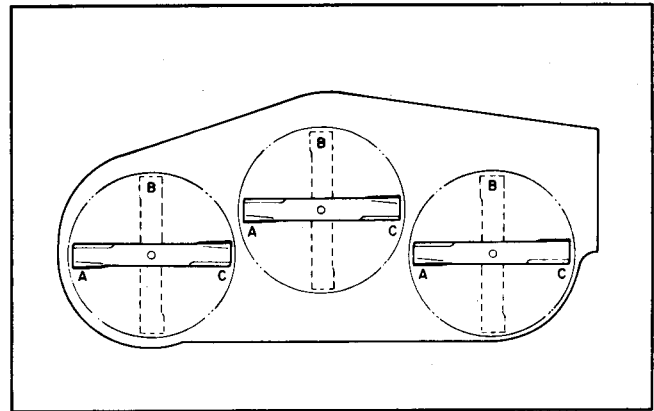
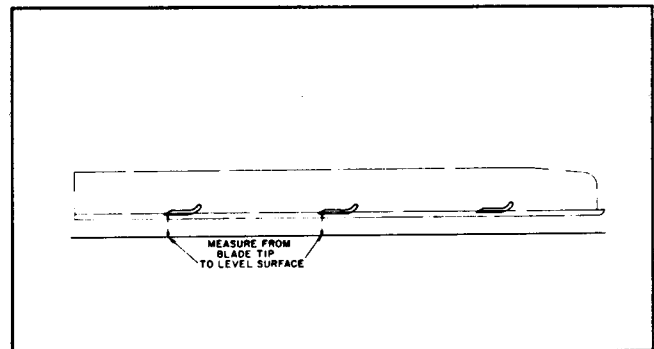

Figure 13
Figure 14
4. Position all three blades in the "A" position (Fig. 13) and measure the distance from the level surface to the bottom of the tip end of each blade (Fig. 14).
5. Note measurement attained at "A", rotate the blades to position "B" (Fig. 13), and measure the distance from all of the blade tips to the level surface (Fig. 14), noting the dimensions.
6. Following the same procedures as in steps 4 and 5 above, rotate the blades to the "C" position. Measure and note the distances measured (Figs. 13 and 14).